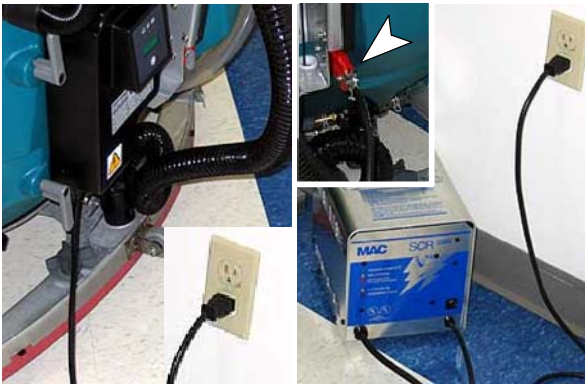

FIG. 70
15. Recharge the batteries (Figure 70) after a total of 30 minutes of use or more.